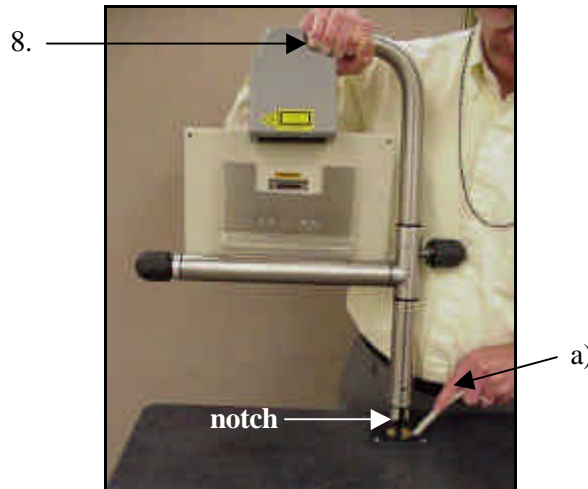

Figure 9: Inserting support mast into mast hole, gray video cable held in mast hole slot
8. Stand at the back of the Conversion Station and grasp the support mast (**Figure 9**).